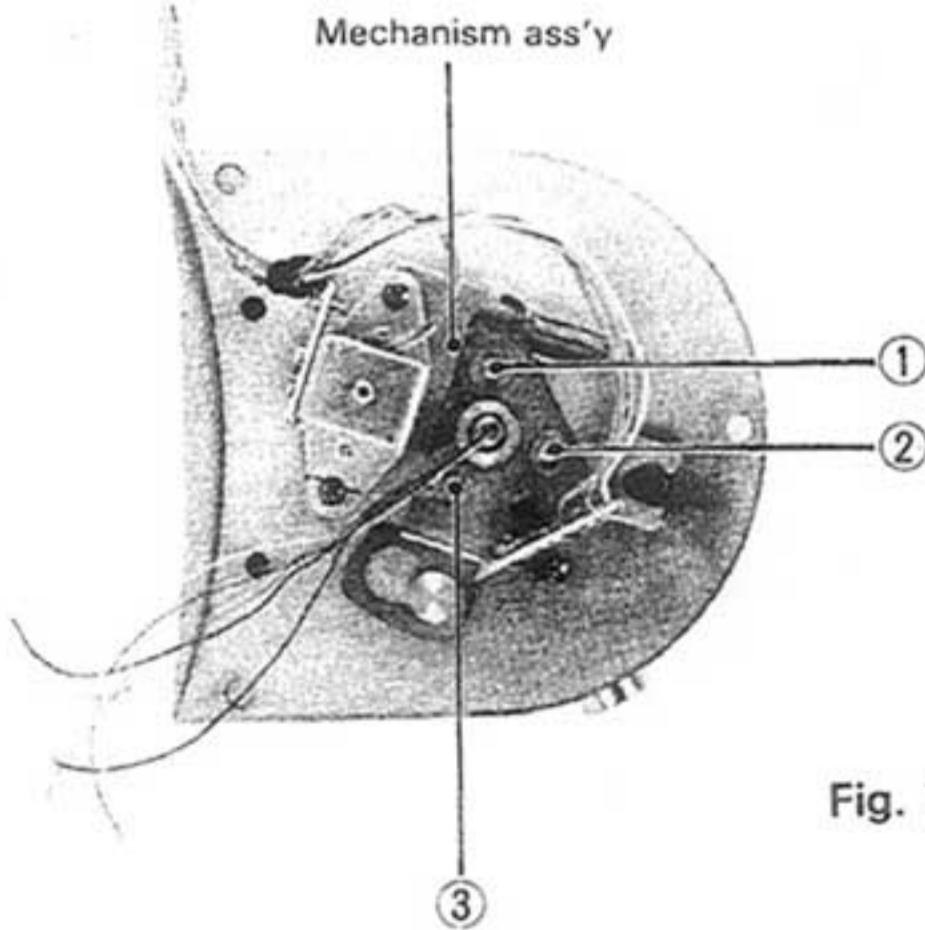

Fig. 7
3. Remove screws ①-③ shown in Fig. 7, and take out the mechanism ass'y.